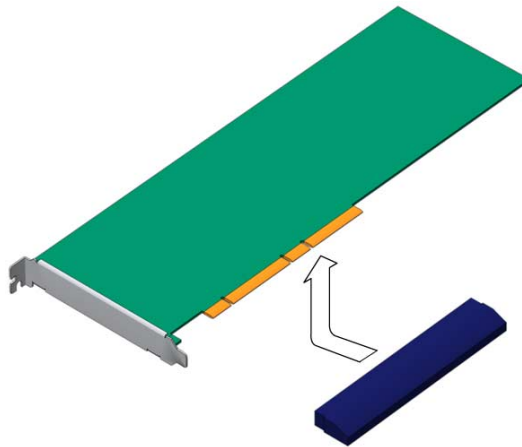

FIGURE 3-65 Lifting the PCI-X Card From the PCI Tray
3. Slide the PCI-X card to the left and lift it out of the PCI tray (FIGURE 3-65).